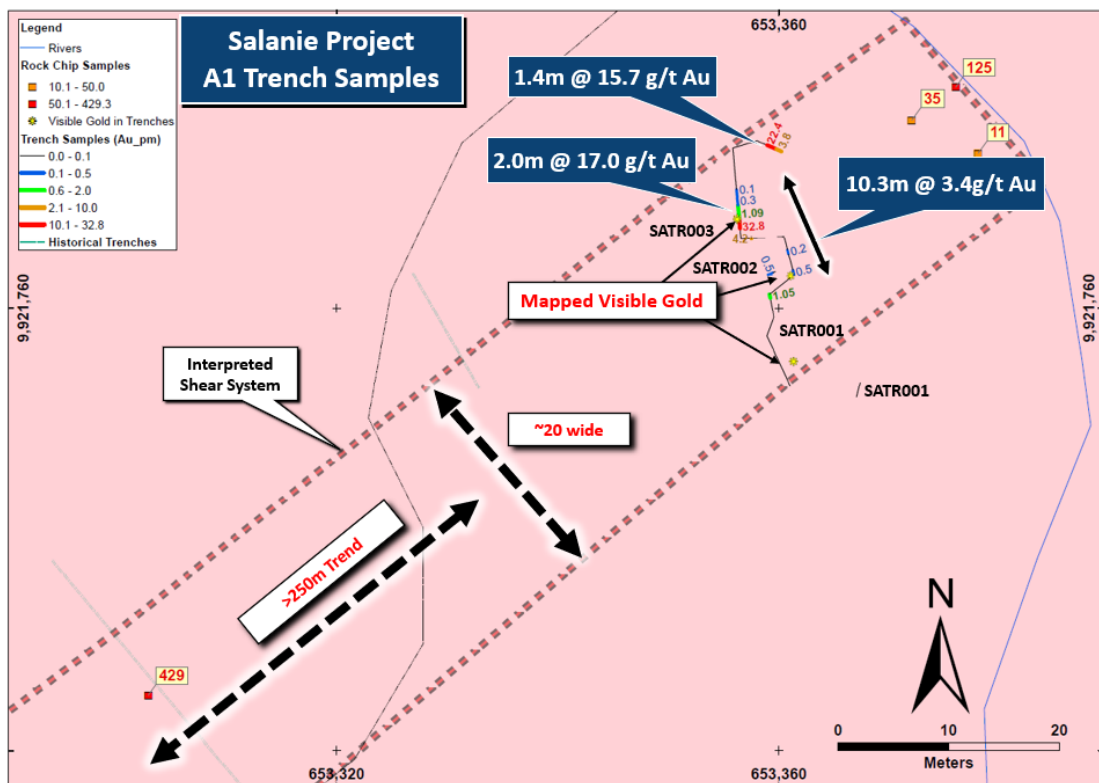

Figure 3: A1 trench samples and nearby rock chips.
Key results from the current program include the identification of a **material 20m+ wide, sub-vertical, quartz vein and shear system** that contains **numerous occurrences of trace visible gold** associated with both bucky-white quartz and stock-work veining on either side within the at-surface SATR001 trench (Figures 3, 4 and 6). Significant results include:
**Estimated true thickness displayed as trench was sampled irregularly. Approx 2.5m of unsampled material was given a grade of 0g/t Au in the interval calculation – refer Figure 3.*